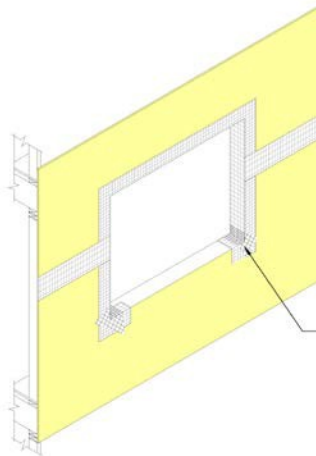

Figure 9
- 1) Apply Dryvit Grid Tape along the jambs and head of the opening as well as all sheathing joints that may intersect the opening and lap onto face of wall a minimum of 2 in (51 mm). Add additional pieces of Grid Tape at the inside corners (sill/jambs) of the opening to maintain continuity – Figure 9.